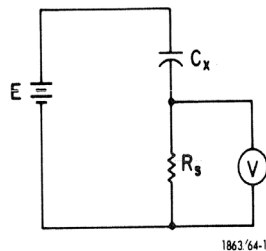

Figure 4-2 Basic megohmmeter circuit
Measuring insulation resistance of large capacitors that have very low leakage is difficult by any method. Considering the basic circuit of Figure 4.2, if R_s is high, the $R_s C_x$ time constant can become very long on the high resistance ranges if C_x is large. If R_s is low, the voltmeter must be very sensitive for a given leakage resistance range and, therefore, the supply voltage (E) must be extremely stable to avoid large meter fluctuations. The design of the 1863 and 1864 is a compromise between these factors. Measurements become difficult when the $R_s C_x$ product is 10^6 , even under ideal conditions. This can be calculated as (C_x in μF) $\times$ (R_s in $M\Omega$) or (C_x in F) $\times$ (R_s in Ω). Table 4.1 contains values for R_s .